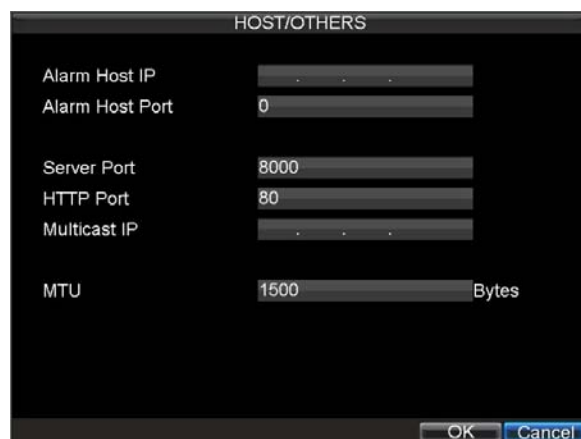

Figure9. Host/Others Menu
3. Click the Set butt next to **Host/Others** to enter the Host/Others menu, as shown in Figure 9.